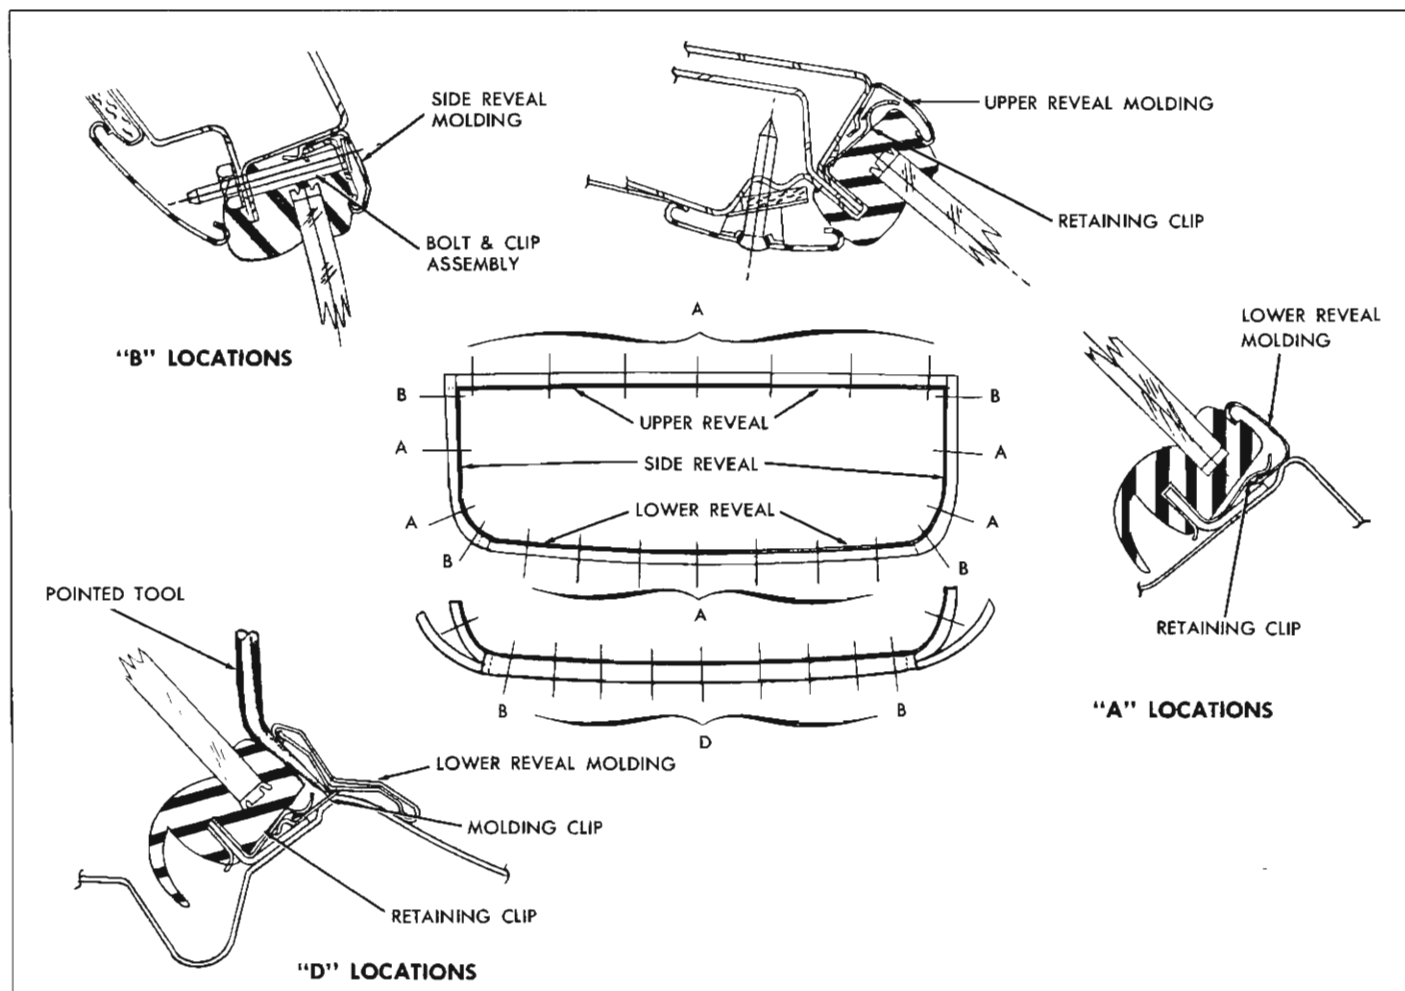

Fig. 32—Back Window Reveal Moldings—"39" Styles
both bolt and clip assemblies at "B". Remove belt reveal moldings as described in "Exterior Moldings". Using reveal molding Tool J-7898-01 insert point of tool between molding and rubber channel and push or pull molding clip sideways to slide it out of engagement from molding retaining clip ("D", fig. 32).
### Upper Reveal Molding (Fig. 32) "39" Style
### Lower Reveal Molding (Fig. 32) 1839 Style
From inside body under inner lip of back window rubber channel, remove nuts from lower reveal molding bolt and clip assemblies at locations "B". Using a reveal molding removal Tool J-7898-01 or other similar pointed tool, insert point of tool between molding and rubber channel and engage point of tool with molding clip as indicated in View "D", Figure 32. Push or pull molding clip with tool until clip has moved sideways out of engagement with retaining clip on body. Perform this operation at each of the molding clip locations "D" and remove molding from body.
**Side Reveal Molding (Fig. 32)